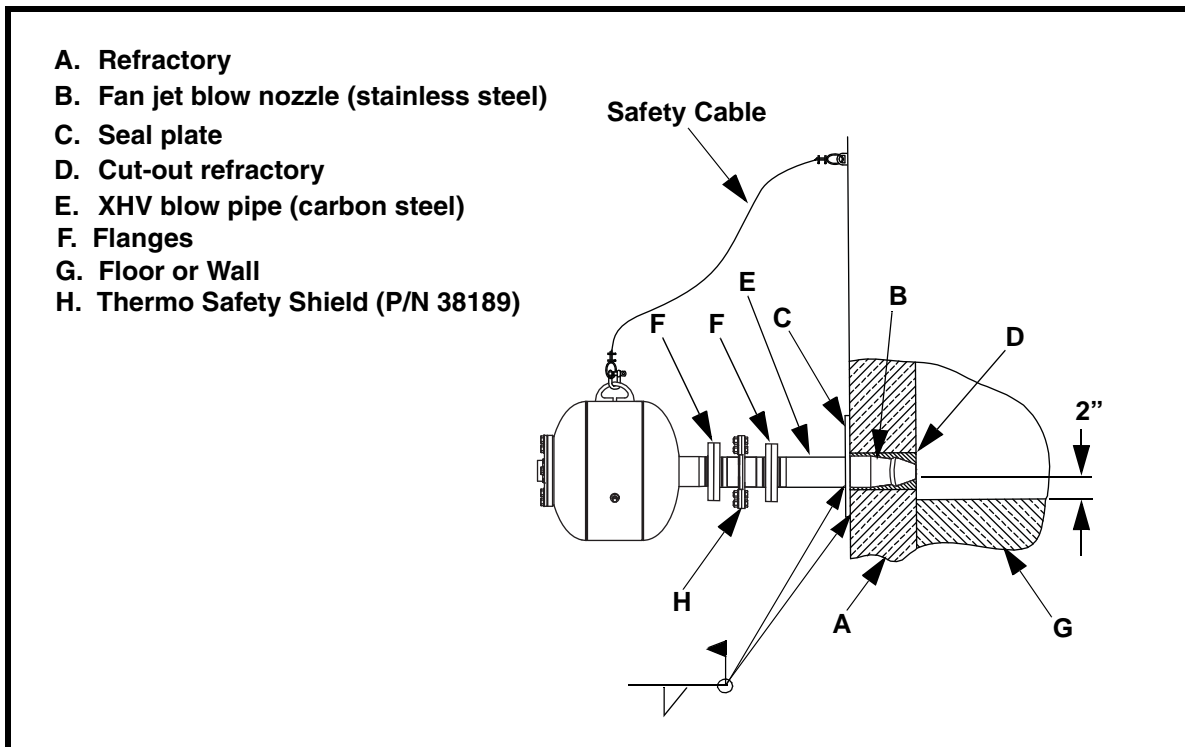

Figure 9. Installing Mounting Plate (High-Temperature Applications)
- (1) Cut a 15-in. (381 mm) by 6-in. (152 mm) hole in skin and refractory (A, Figure 9) (if present).
- (2) If using high-temperature blow pipe, field weld onto fan jet blow nozzle.
- (4) Install 1/4-in. (6 mm) thick by 17-in. (432 mm) long by 8-in. (203 mm) wide seal plate (C, Figure 9) over fan jet blow nozzle opening.
- (5) Field weld seal plate to vessel skin.
- (6) Field weld fan jet blow nozzle to seal plate.
- (7) Pack new refractory into hole that you cut out (D) in step 3.b(1) to seal around fan jet blow nozzle.
- (8) Field weld blow pipe to high-temperature blow pipe (if using) or fan jet blow nozzle.
- (9) Go to step 3.d.
- (1) Cut a 5-in. (127 mm) round hole in skin and refractory (A, Figure 9) (if present).
- (3) Install 1/4-in. (6 mm) thick by 8-in. (203 mm) long by 8-in. (203 mm) wide seal plate (C, Figure 9) over blow pipe opening in **one** of the following ways:
1. Thread (and weld, if desired) one companion flange (G, Figure 9) to blow pipe and other companion flange to discharge weldment.